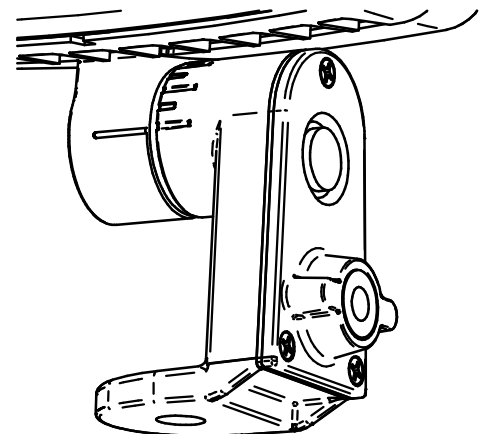

Fig. 2
8. Replace the trunnion cover to the trunnion housing and tighten screws. (Fig. 2) **(Be careful not to pinch any wires.)**